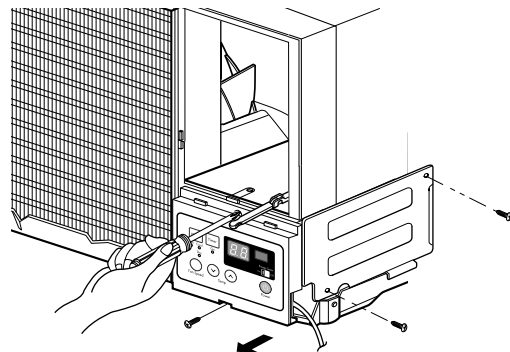

Figure 3
8. Re-install the components by referring to the removal procedure, above. (See Figure 3) (Refer to the circuit diagram found on pages 29~30 in this manual and on the control box.)